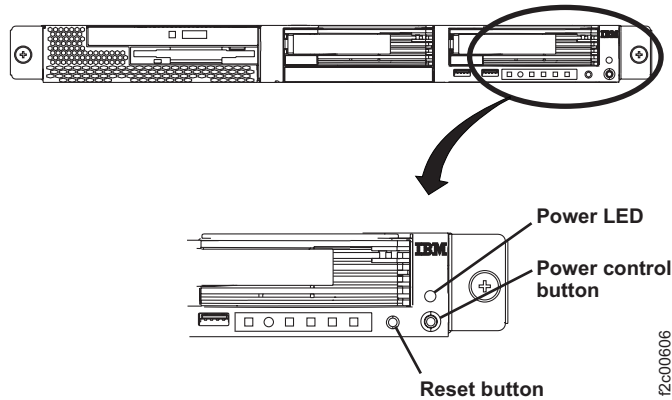
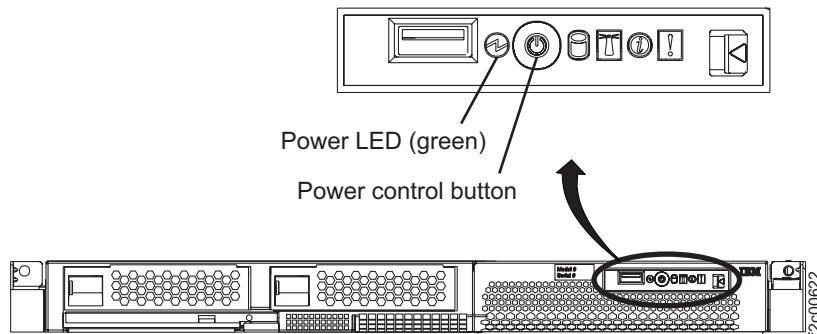

Figure 55. X335 management console server (front view)
Figure 56. X336 management console server (front view)
3. Observe the power LED on the front of the management console server. See Figure 55 on page 60 (X335 server) or Figure 56 on page 60 (X336 server).